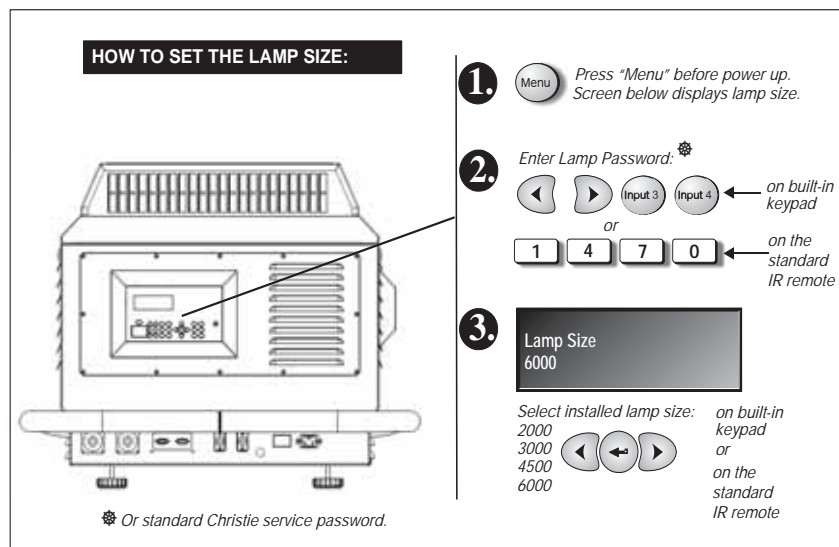

Figure 2-46 Checking or Setting Lamp Size
2. Enter the Lamp password. See Figure 2-46.